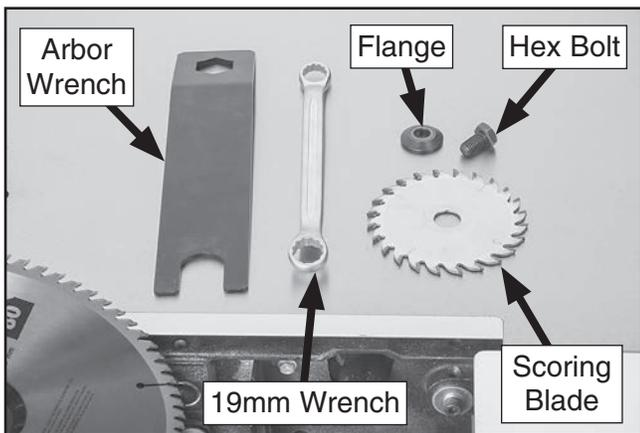

Figure 88. Scoring blade, flange, arbor hex bolt, 19mm wrench, and arbor wrench.
- Unthread arbor hex bolt counterclockwise (left-hand threads), and remove arbor hex bolt, flange, and blade (see **Figure 88**).